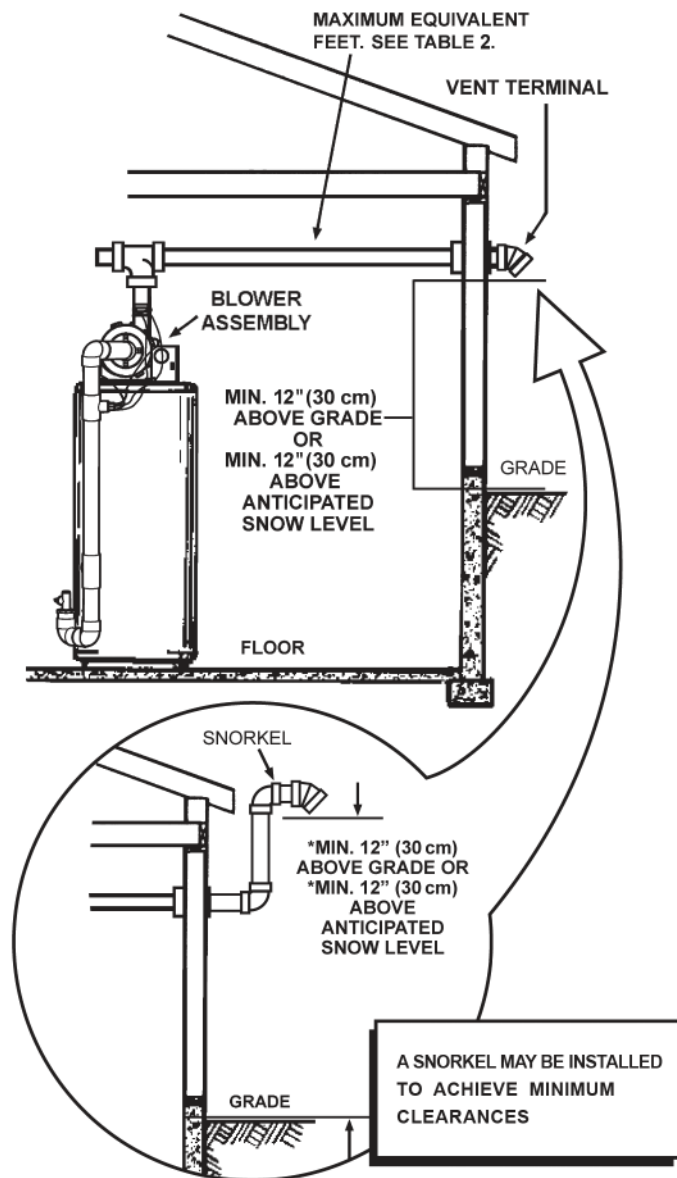

FIGURE 20.
If necessary to achieve the 12 inches (30 cm) minimum clearance above the highest anticipated snow level, install a snorkel as shown in bottom portion of Figure 20.
1. Vent Termination must extend a minimum of 12 inches (30 cm) above roof or 12 inches (30 cm) above the anticipated snow level to prevent blockage of the vent termination, as shown in Figures 20 and 21.